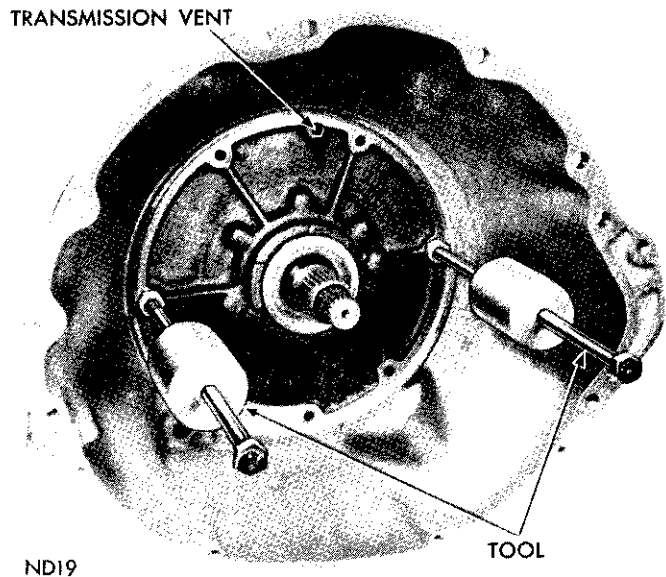

Fig. 38—Removing Pump and Reaction Shaft Support Assembly
- (1) Tighten front band adjusting screw until band is tight on the front clutch retainer. This prevents clutch retainer from coming out with pump which might cause unnecessary damage to the clutches.
- (2) Remove oil pump housing retaining bolts.
- (3) Attach Tool C-3752 to the pump housing flange (Fig. 38), thread screws of tool into the flange holes at 9 and 3 o'clock locations.
- (4) Bump outward evenly on the two "knocker weights" to withdraw pump and reaction shaft support assembly from the case.